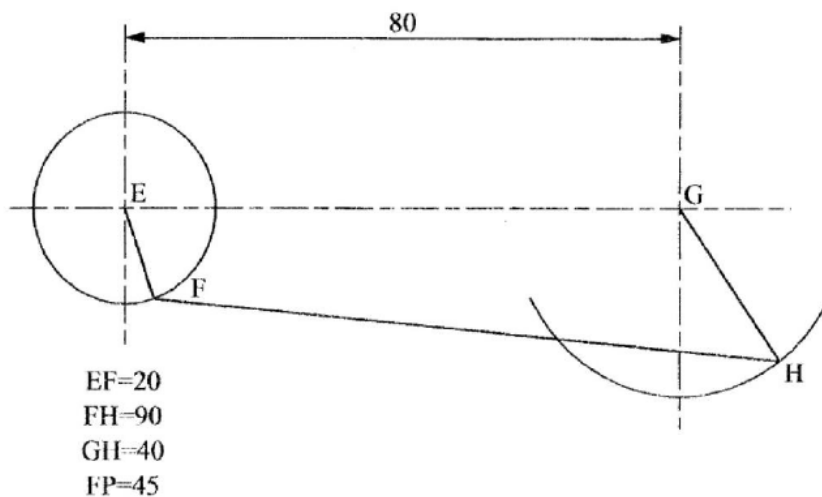

Figure 8
- 12.** In the mechanism shown in **Figure 8**, the crank EF rotates about centre E while GH oscillates about G .